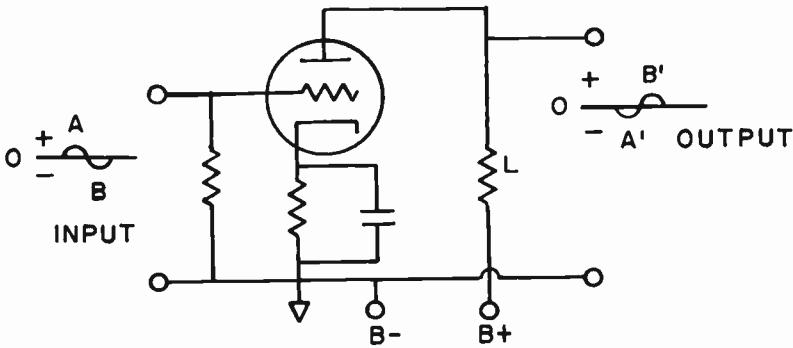

FIG. 9-9. PHASE RELATIONSHIPS IN AN AMPLIFIER.
**PHASE RELATIONSHIPS IN AMPLIFIERS.** Fig. 9-9 illustrates a simple, conventional one-stage amplifier using cathode bias. The input signal is applied between the grid and ground. The output signal is taken from between the plate and the ground. Graphs of the input and output signals are shown. Note that the output is an amplified, but not exact version of the input. In the input signal, the first alternation, A, is positive. In the output,